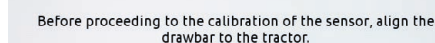

Fig. 39
**3** The message in Fig. 39 is displayed: follow the instructions, then start the procedure by pressing **[OK]**.